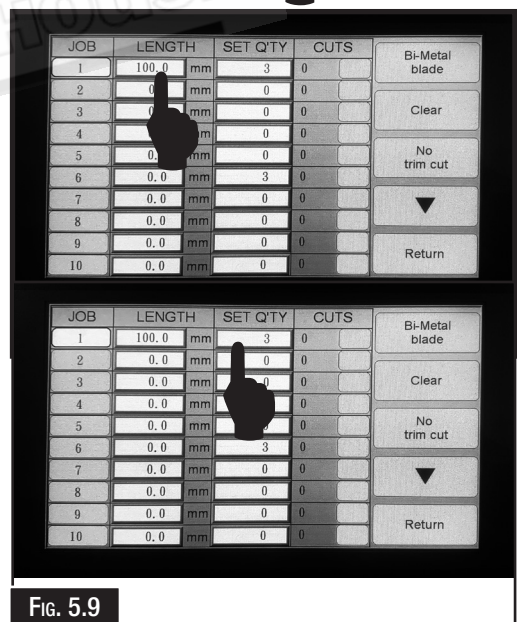

Fig. 5.9
5. Press the “length field” on the touch screen controller and enter the length to be cut. (Fig. 5.9)
6. Press the “Set QTY field” and enter the number of pieces to be cut. (Fig. 5.9)
8. Select the jobs to be cut by checking the program number, the box colour will change from green to yellow meaning the program is selected. (Fig.5.9)